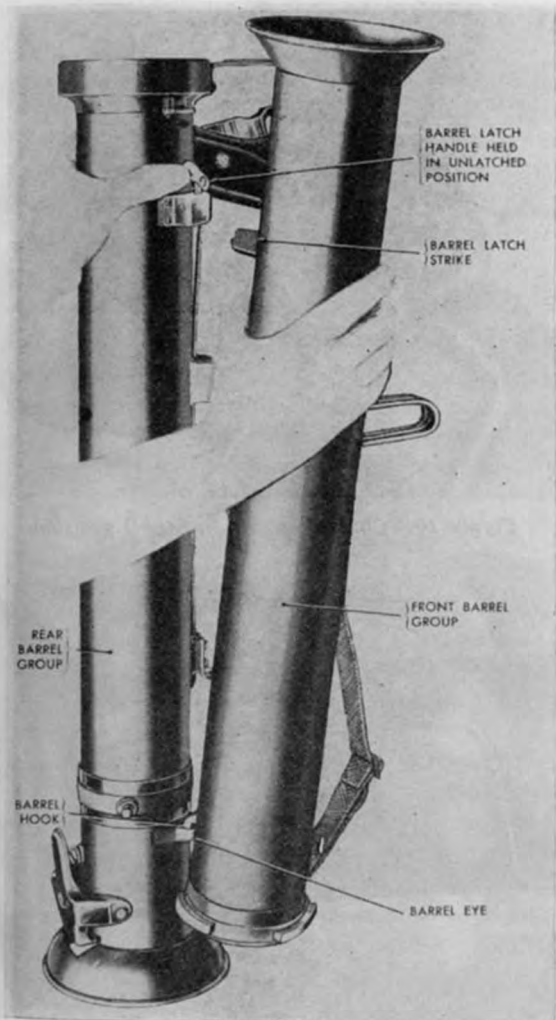

Figure 9. Unlatching barrels from carrying position.
The barrel latch handle (fig. 9) is on the right side of the rear barrel assembly, just in rear of the trigger grip. It is used to release the barrel latch. This locks the front and rear barrel assemblies in the carrying position. Moving the handle forward retracts the barrel latchbolt from the barrel latch strike on the front barrel assembly. Two springs on the barrel latchbolt keep the bolt in its normal extended position.
- (1) Raise the barrel latch handle and disengage the two barrels (fig. 9).